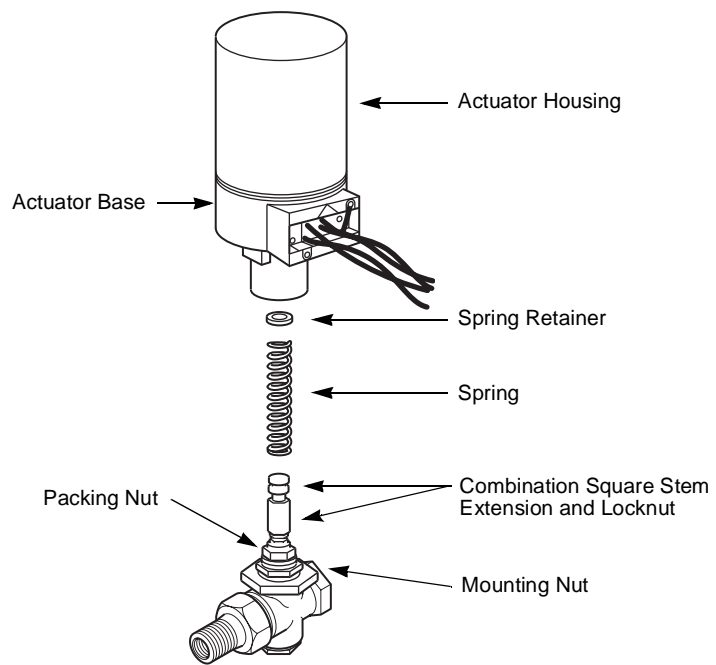

Figure-4 Installation of AV-600.
2. Thread the correct stem extension several threads on to the valve stem (Figure-4).
Caution: Do not twist or exert any force on the actuator housing during installation (Figure-4). Either turn the base of the actuator by hand or, if necessary, use a 1-5/8" open end wrench (TOOL-37) on flats provided on the actuator base and valve body mounting nut (Figure-4).
6. With the valve stem in the up position, place the spring over the valve stem (Figure-4).